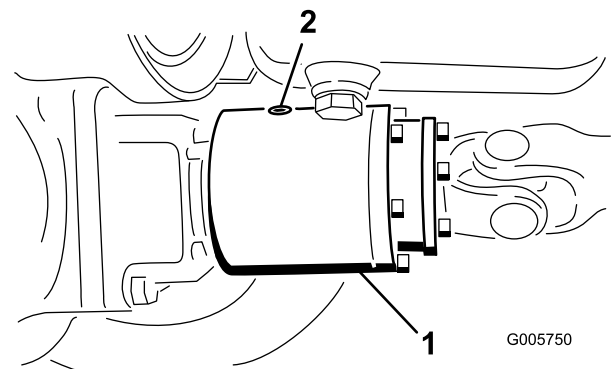

Figure 56
3. Rotate clutch so check plug is positioned downward (Figure 56).